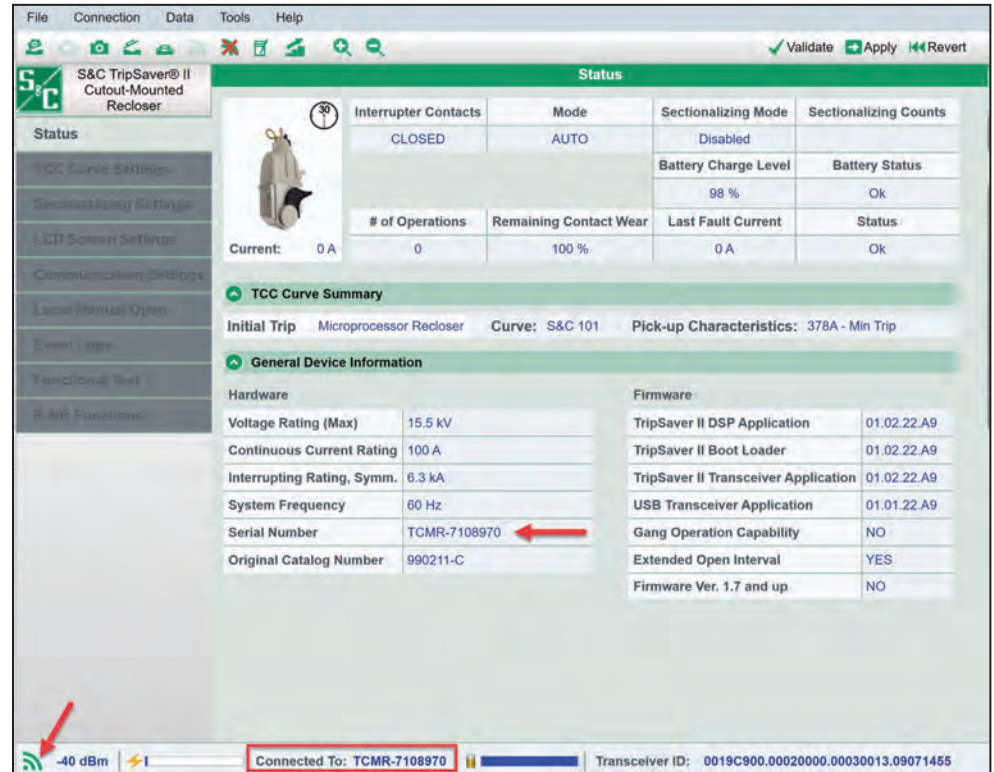

Figure 52. The TripSaver II recloser serial number and Signal Strength indicator locations.
- STEP 2.** Make a note of the serial number, starting with “TCMR,” of the TripSaver II recloser to be updated. See Figure 52. This number is also etched on the body of the TripSaver II recloser.
- STEP 3.** Check that the **Signal Strength** indicator on the left side of the Additional Information Bar is green. See Figure 52 on page 39. See the “Additional Information Bar” section on page 20 for more information on the **Signal Strength** indicator. Then, optimize the signal strength between the TripSaver II recloser and USB transceiver, as described in the “Optimizing Signal Strength” section on page 113. If in an area with strong signal interference, or if the **Signal Strength** indicator is yellow or red, do not try to update the TripSaver II recloser’s firmware.